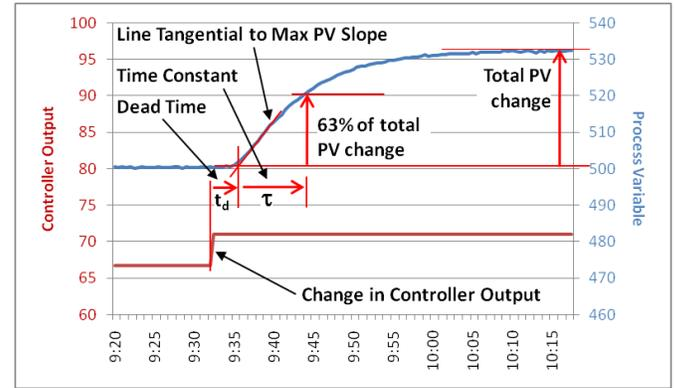

Figure 2
To apply the IMC tuning rules for a self-regulating process, follow the steps below. The process variable and controller output must be time-trended so that measurements can be taken from them (Figure 2).
- b) Make a step change in the controller output (CO) of a few percent and wait for the process variable (PV) to settle out. The size of this step should be large enough that the PV moves well clear of the process noise/disturbance level. A total movement of five times more than the peak-to-peak level of the noise and disturbances on the PV should be sufficient.
2. Determine the process characteristics (refer to Figure 2):